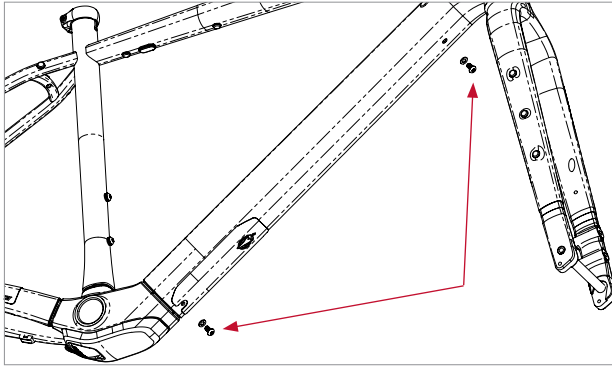

Figure 13
8. Use a T25 Torx wrench to remove the two screws holding the battery from the underside of the downtube (Figure 13). Support the battery as screws are removed — the battery will come loose in the frame.
Always use the internal battery attachment screws included on your bicycle to install the battery (Figure 13). See your dealer for replacement if needed. Using screws with different length or specification may damage the internal battery.